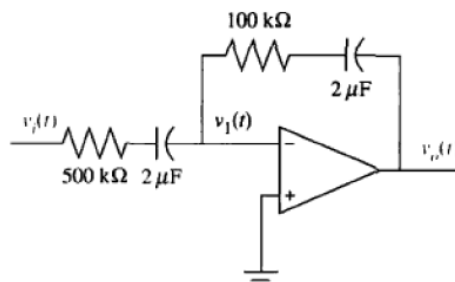

Figure 1
- 2A.** Determine the transfer function, $G(s) = V_o(s)/V_i(s)$, for the operational amplifier circuit shown in the Figure 1. 4